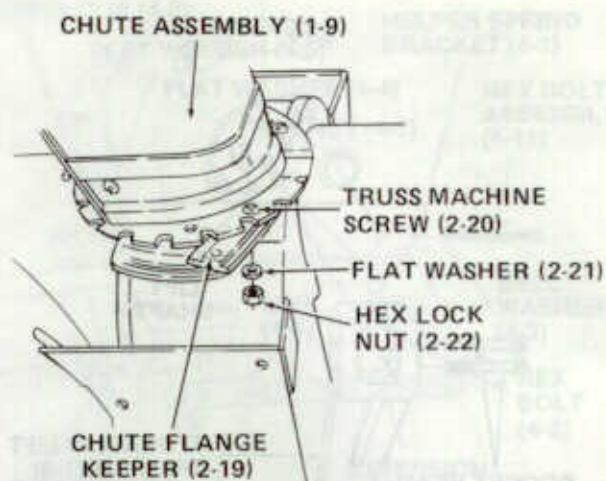

Figure 39
12. Install chute assembly (1-9) as follows. Refer to Figure 39.